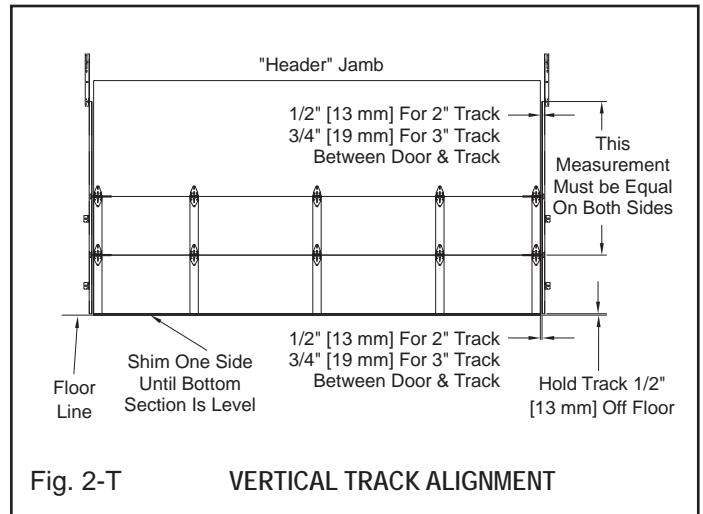
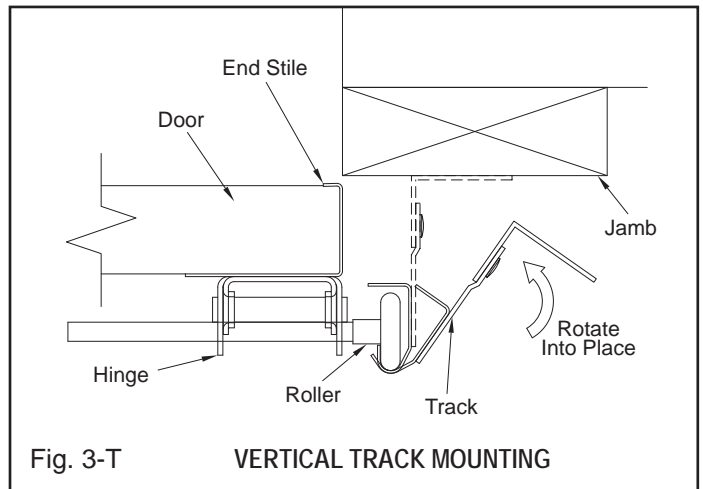
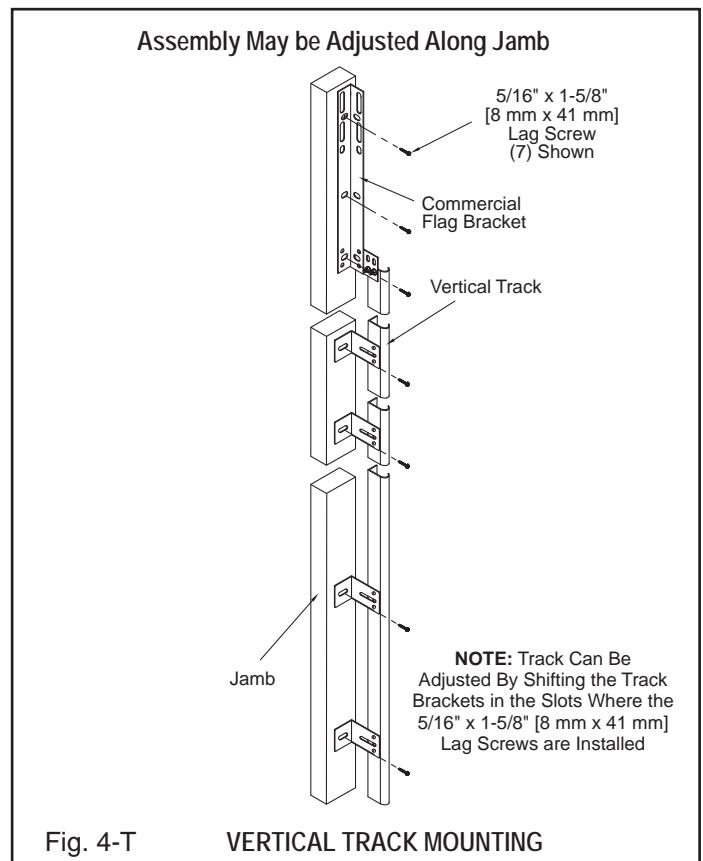

Fig. 2-T VERTICAL TRACK ALIGNMENT
Fig. 3-T VERTICAL TRACK MOUNTING
Fig. 4-T VERTICAL TRACK MOUNTING
Attach inside bolt assembly to end stile using #14 x 5/8" [6 mm x 16 mm] hex head sheet metal screws. The slide bolt must rest against the top of the engaging slot (Fig. 4-S).
Step 1: Vertical Track. Center bottom section in opening on inside of garage. Level section by shimming low side. (Fig. 2-T) Leave shims in place until door install is completed. Install the vertical track on opposite side of where block was placed, over the two rollers of the bottom section with a twisting motion. (Fig. 3-T) Raise track 1/2" [13 mm] off the floor, and screw 5/16" x 1-5/8" [8 mm x 41 mm] lags (wood jambs), or self-drilling screws (steel jambs) through bottom mounting bracket. (Fig. 4-T) Adjust track sideways to allow 1/4" [6 mm] end play in roller about 1/2" [13 mm] (2" track) or 3/4" [19 mm] (3" track) from edge of track to edge of door. (Fig. 2-T) Plumb vertical track and put at least two lags or sheet metal screws in the mounting brackets at the top of the door. Final adjustment will be made after door is stacked. Measure from the top of the vertical track to the top of the bottom section and set the opposite track at exact same height repeating above procedure. (Fig. 2-T) Since the bottom section is level, then the vertical tracks must be level. **Make sure bottom rollers do not come out of the bottom of the track.**
Step 3: Finishing Vertical Track. Set the top of the vertical tracks so that there is 1/4" [6 mm] end play in the rollers, about 1/2" [13 mm] (2" track) or 3/4" [19 mm] (3" track) from edge of track to edge of door. (Fig. 2-T) Finish attaching vertical track to the wall. If you are mounting to steel jambs, you will have to wait until you can raise the door to finish attaching vertical tracks.
Install springs and wind. (Fig. 4-AT) Refer to "Spring Winding" for additional instruction.